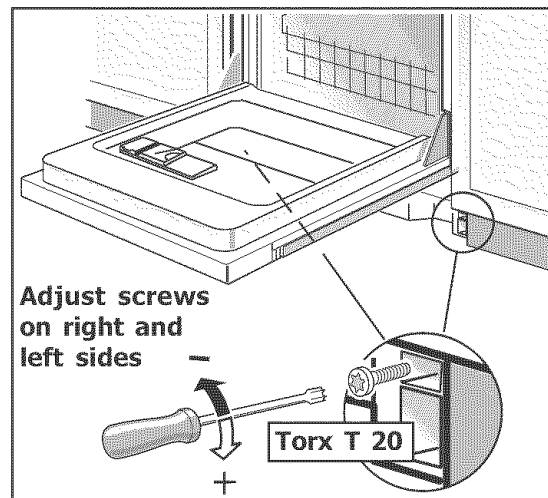

Figure 22
- Insert the screws in the right and left sides and adjust spring tension as shown (see Figure 22).